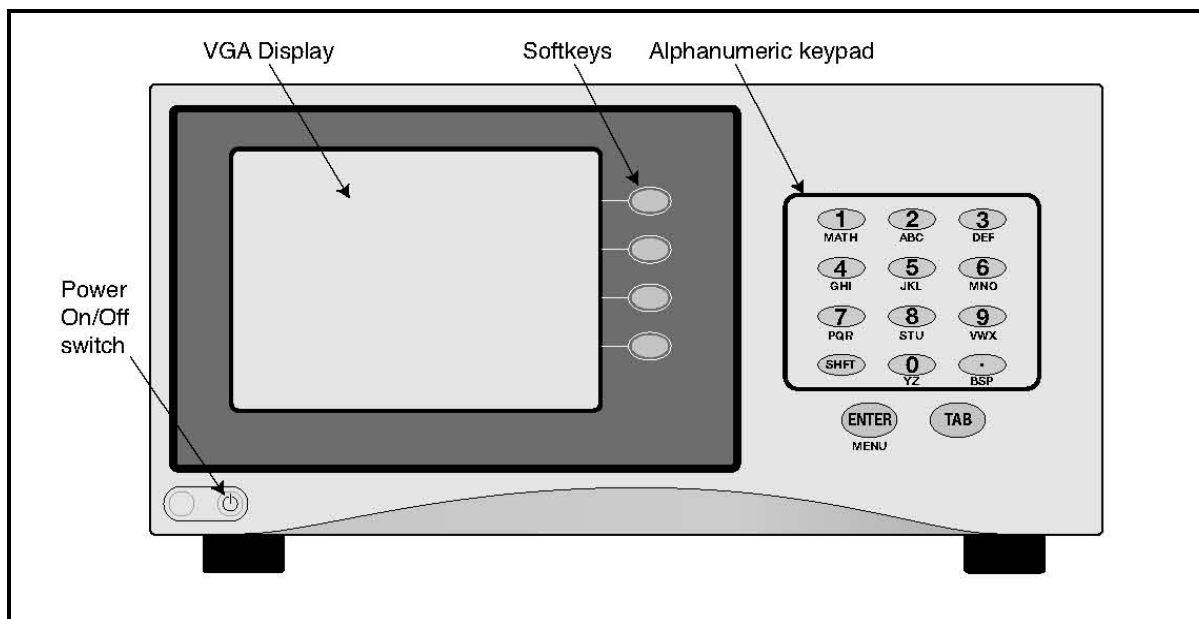

Figure 1: *Optica* Benchtop Version with VGA Display
The *Optica*'s front panel is shown in Figure 1 below. The panel includes: a display, an alphanumeric keypad for data entry, ENTER and TAB keys, and four softkeys to the right of the display screen.
- a high-resolution full-color liquid crystal display (LCD) with data graphing and on-screen programming capability (referred to as the “VGA” unit). See Figure 1 below.